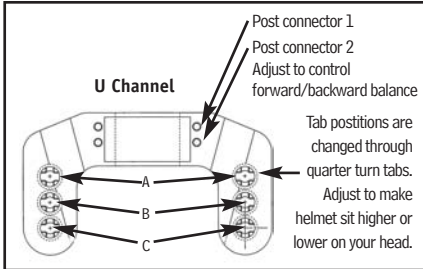

Figure 1
3. Pop the gray colored "U Channel" (Figure 1) away from the black inner liner. There is one "U Channel" in the front of the helmet and one in the back of the helmet.